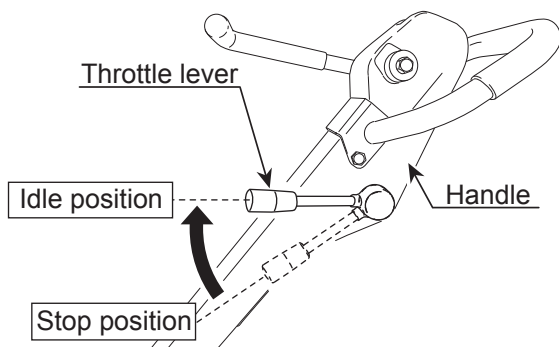

Figure 11. Throttle Lever (Idle Position)
2. Move the throttle lever (Figure 11) to the **idle** position.
2. Move the throttle lever (Figure 11) to the *idle* position.